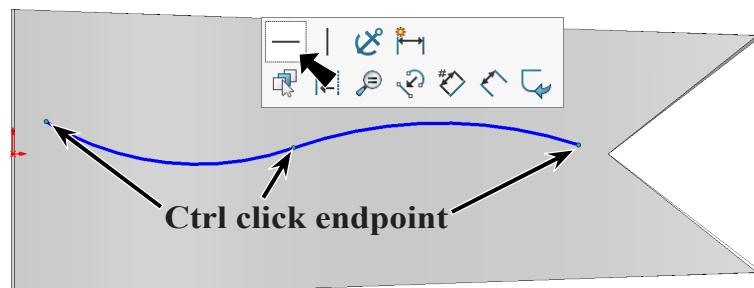

Fig. 27
Step 8. **Ctrl click the three endpoints** of arcs to select all three. Release Ctrl key and click **Make Horizontal**  on the context toolbar, Fig. 27.